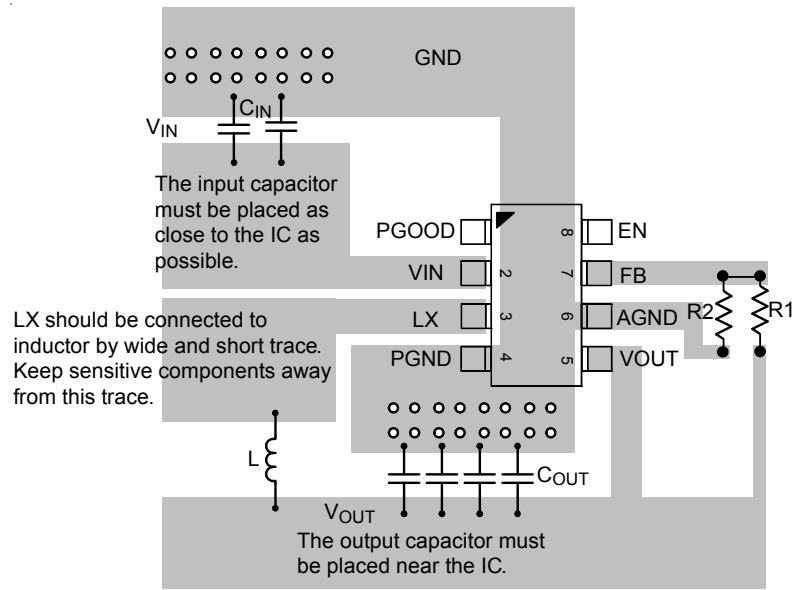

Figure 6. TSOT-23-8 (FC) PCB Layout Guide
- ▶ Avoid using vias in the power path connections that have switched currents (from CIN to GND and CIN to VIN) and the switching node (LX).
An TSOT-23-8 (FC) example of PCB layout guide is shown in Figure 6 for reference.